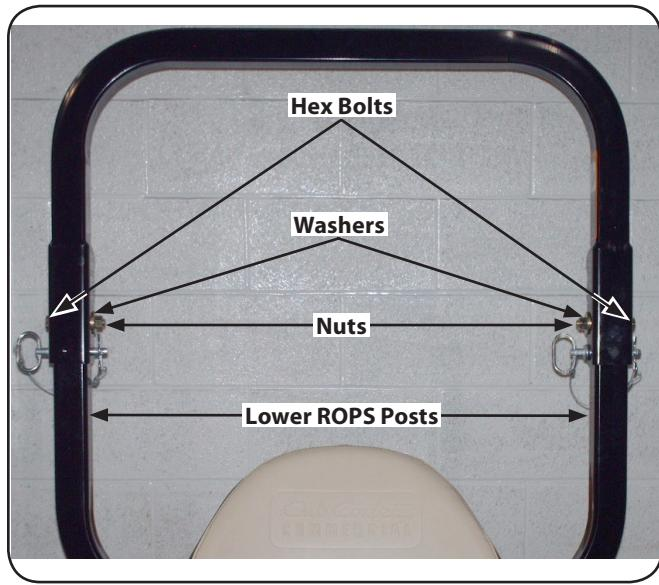

Figure 3-3
4. Install the upper ROPS section onto the lower ROPS "posts". Install the (1/2-13 x 3.25) HHCS bolts, nuts and washers. See Fig. 3-3.